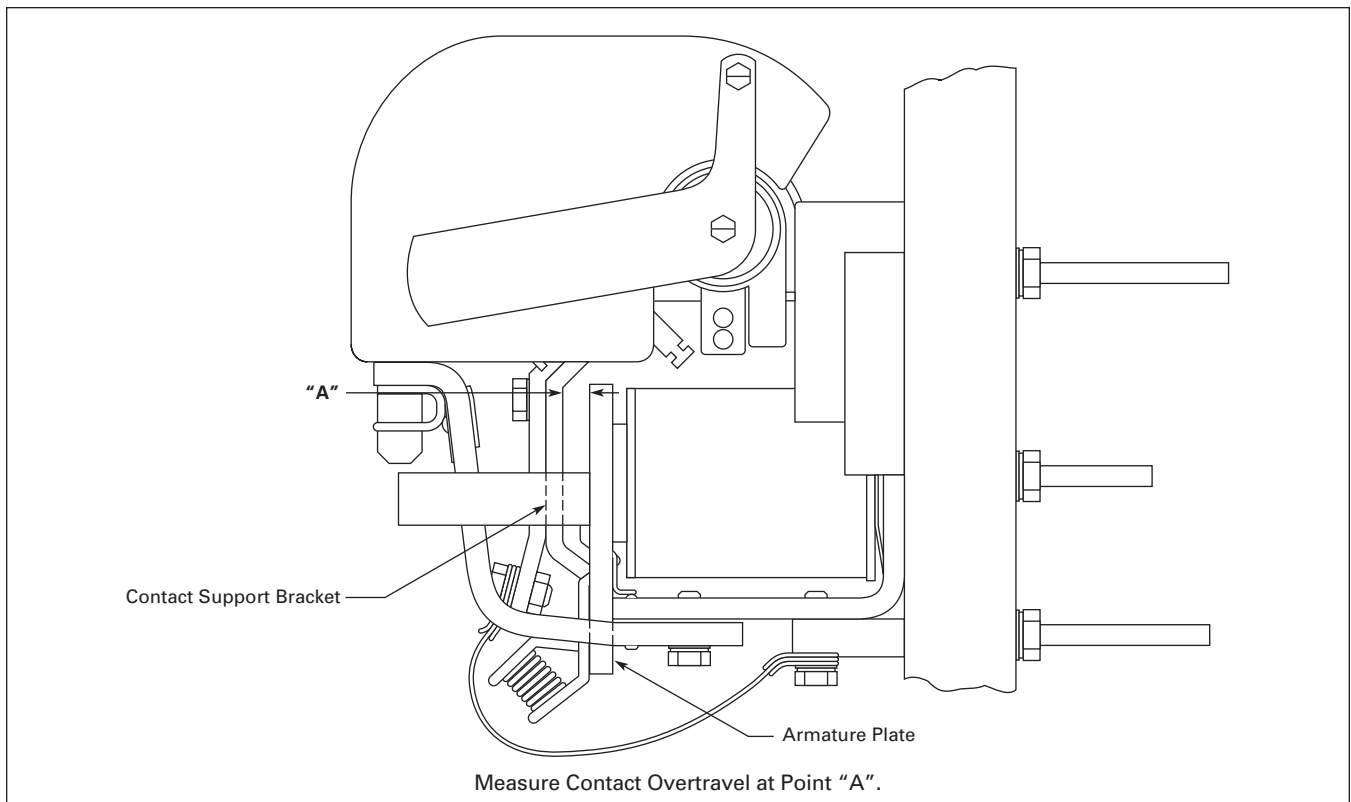

Figure 3. Type MR810 Contactor with Armature Closed
Order replacement contact kits by the part number shown in **Table 4**. When contacts are new and the armature is seated either electrically or mechanically, the gap between the contact support bracket and the top of the armature plate, Dimension "A" in **Figure 3**, should be as shown in **Table 4**. Change contacts when this dimension is reduced to 1/32 inch.
^① Dimension "A" in Figure 3.